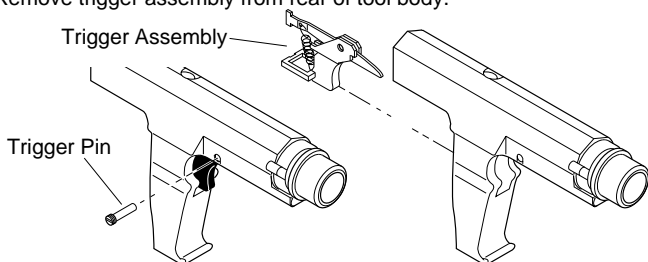

**Figure 7 - Removing Plug and Springs to Access Firing Pin**
4. Place smaller diameter spring into sear assembly. Make sure spring is over top of firing pin (see Figure 7, page 20).
5. Place large diameter spring over top of smaller spring (see Figure 7, page 20).